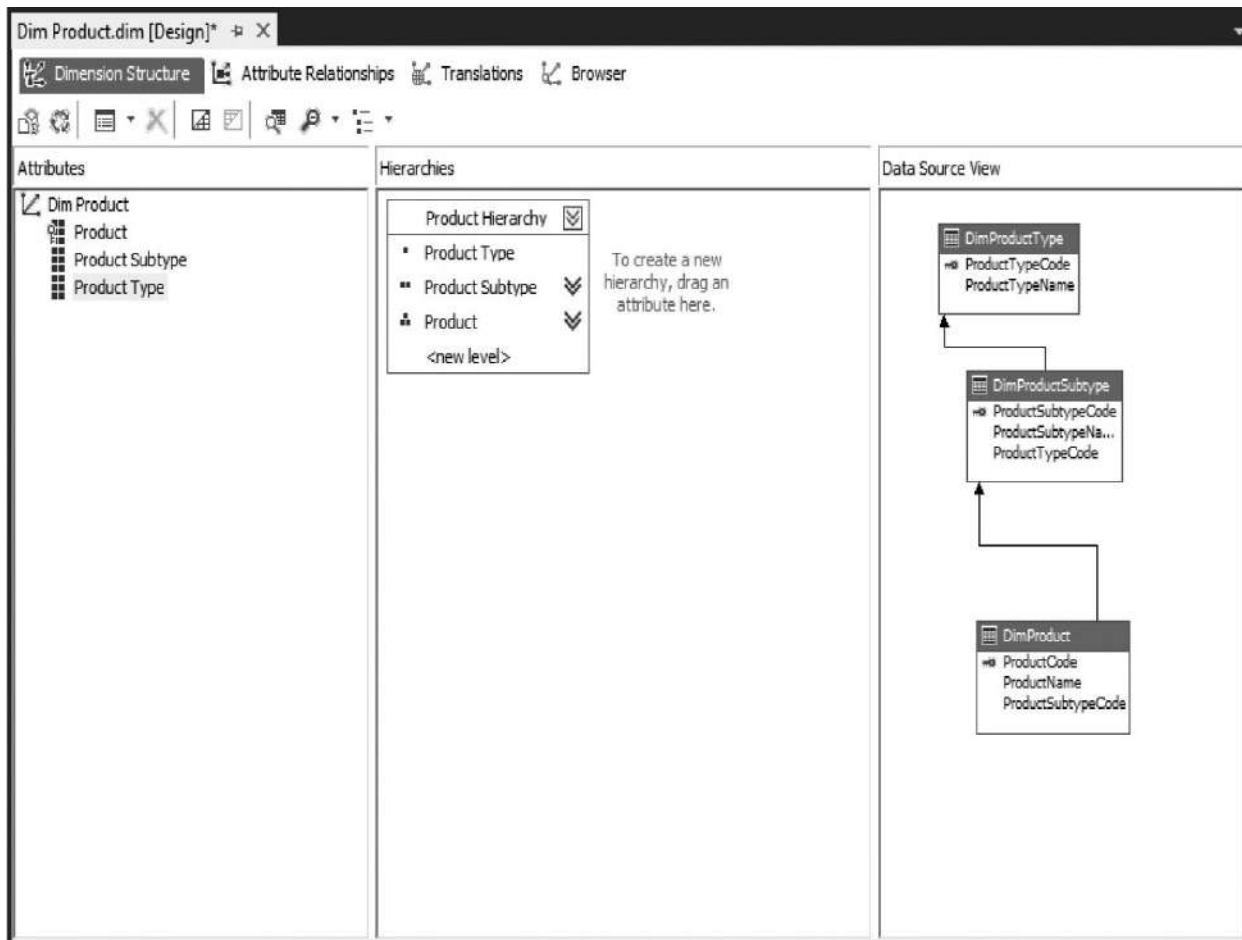

Figure 13-13 The Dim Product dimension
17. Again, in the Properties window, select Name from the OrderBy drop-down list. The Dimension Design tab should appear as shown in Figure 13-13.